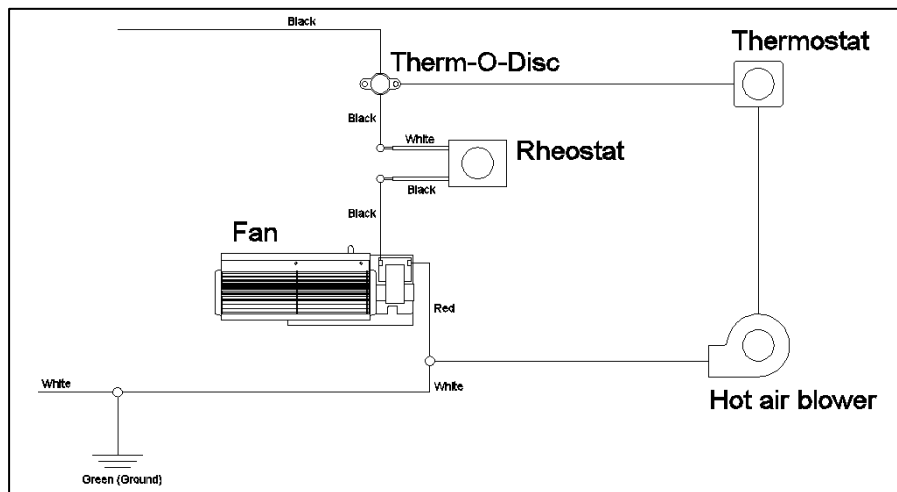

Figure 4-3: Electrical Diagram for Parallel Connection of Hot Air Kit and Blower Kit
8. Make the electrical connections (Figures 4-3 and 4-4). Note that the power supply to the blower is 115V.